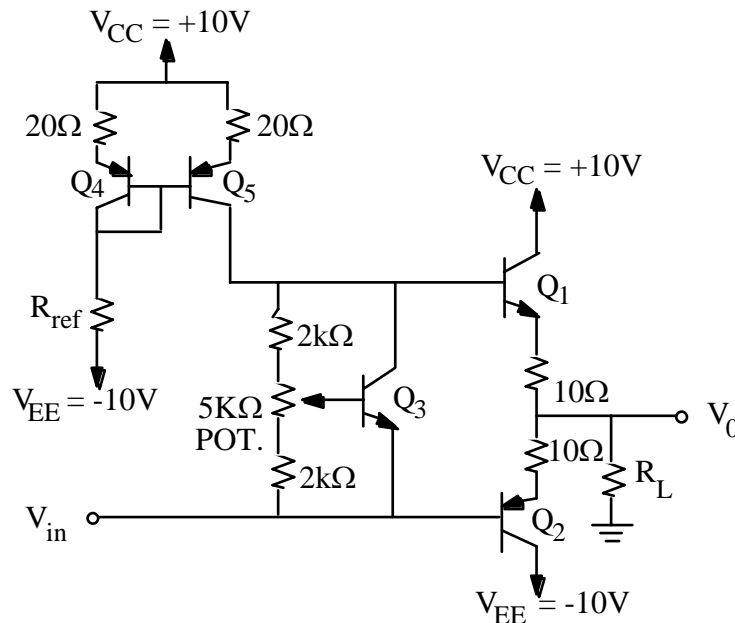

Fig. 1.
2. Design your circuit, Fig. 1, i.e., calculate the required value of R_{ref} so that the current mirror will supply a bias current to the V_{BE} multiplier that is about three times the maximum base current expected for Q_1 . Assume that $\beta = 100$.